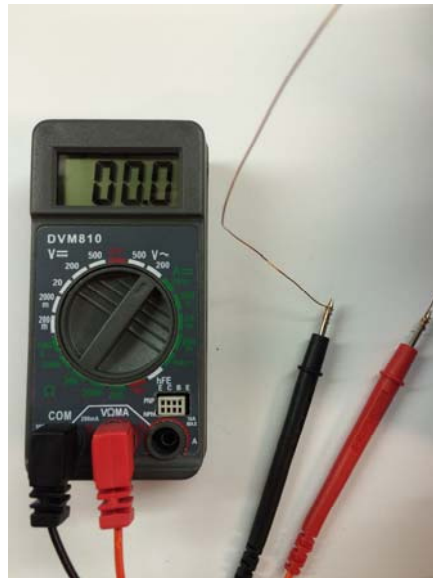

Figure 2
2. The digital multimeter must be set to measure alternating voltage, as shown in Figure 2.